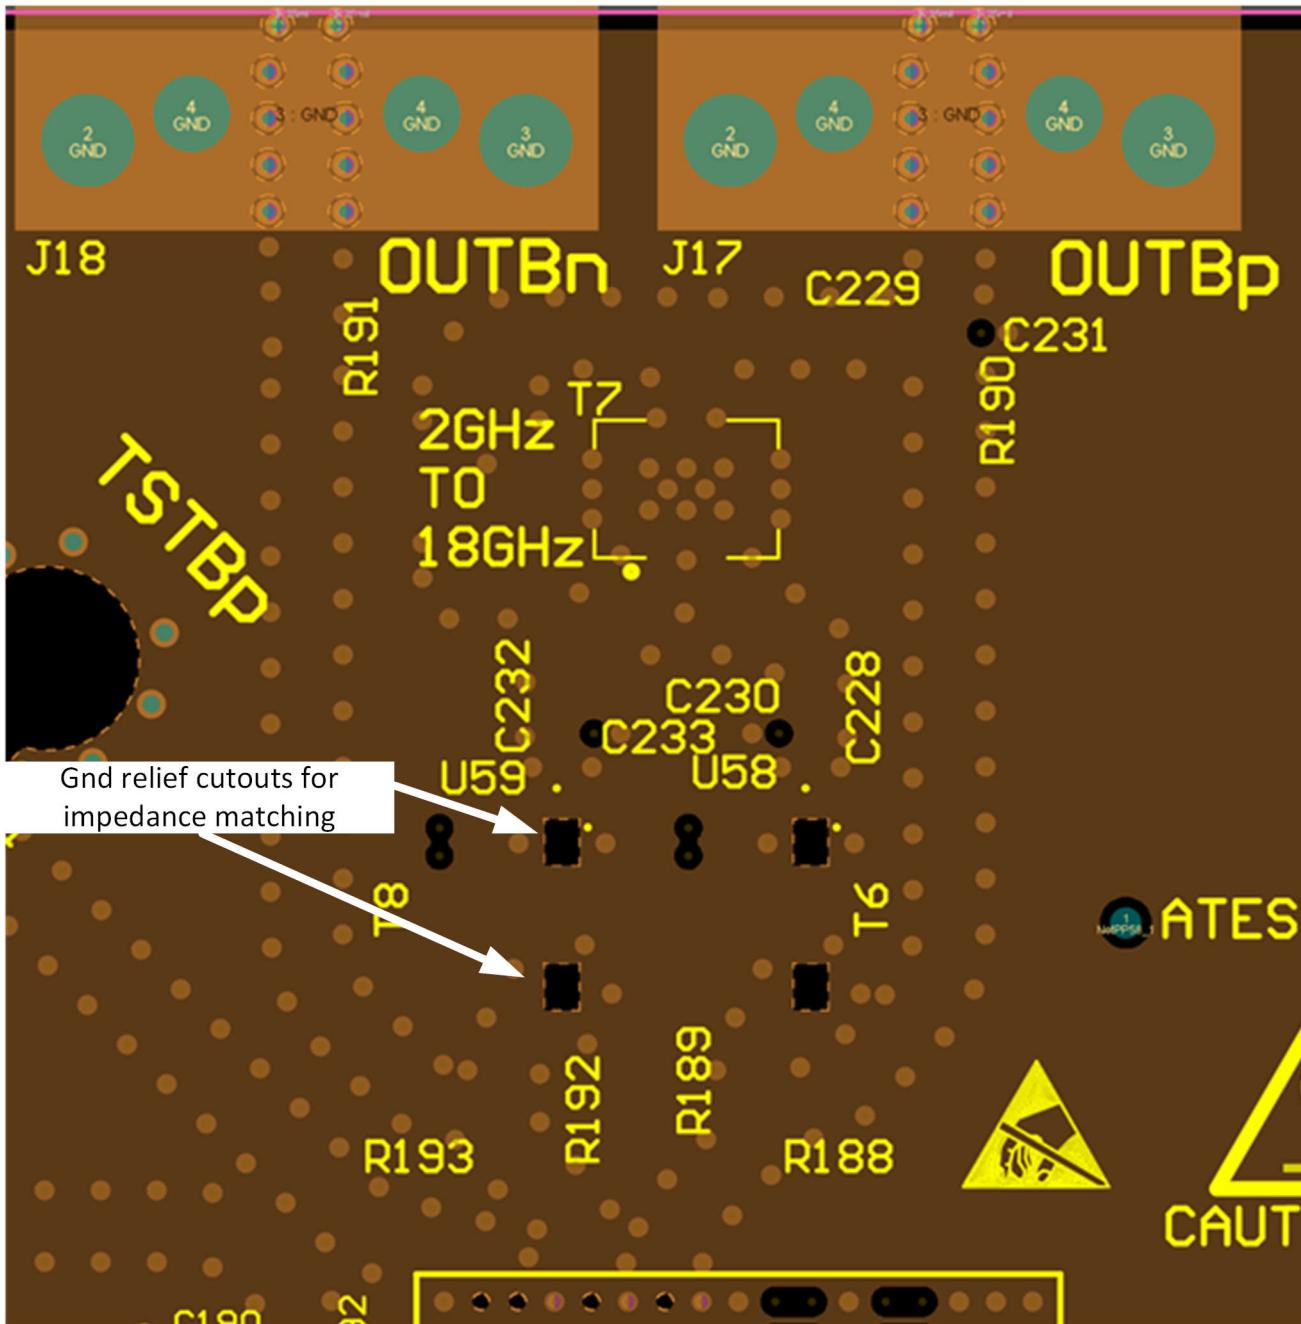

Figure 9-11. Ground Cut-outs below Balun Pins
- Incorporate any ground plane cutouts necessary at component landing pads, ie – SMA connectors, baluns, and so on, to avoid impedance discontinuities at these locations. Cut-outs below these landing pads on one or multiple ground planes to achieve a pad size or stackup height that achieves the needed 50Ω , single-ended impedance. See Figure 9-11 and an example.